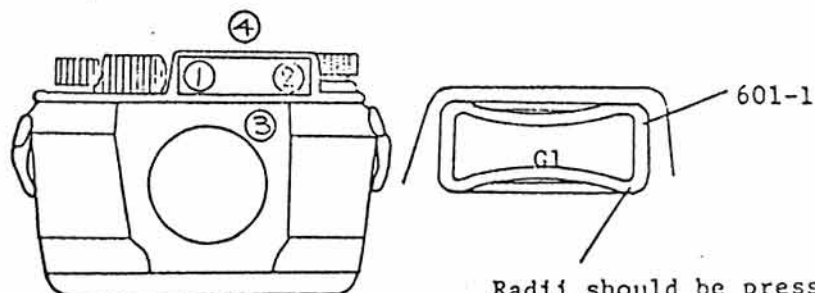

Figure 3
- b) Thinly coat P/N 601-1 with grease G6252 and install P/N 601-1, first pressing the shorter side ① and ② as illustrated in Figure 3. The radii at the four corners should be pressed down in place at this step. Also, note that P/N 601-1 should be positioned with its G1 side kept toward you to prevent G1 from chipping off.
- c) Press down the longer sides at the center, first ③ side, then ④.
- e) Performing the water pressure test, clean the G1 surface with ether to see if no blur appears on the G1 surface. If detected, water leakage is possible, therefore, repeat the P/N 601-1 positioning procedures from the step (1).